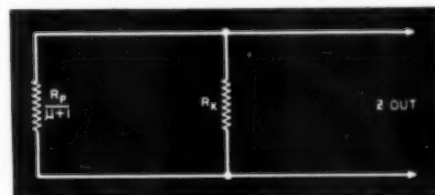

Fig. 4. Circuit used to determine the output impedance of the cathode follower.
From equation (3), it can be seen that the resistive circuit is equivalent to two resistors in parallel—the fictitious resistance $R_p/(\mu+1)$, and R_k . See Fig. 4.